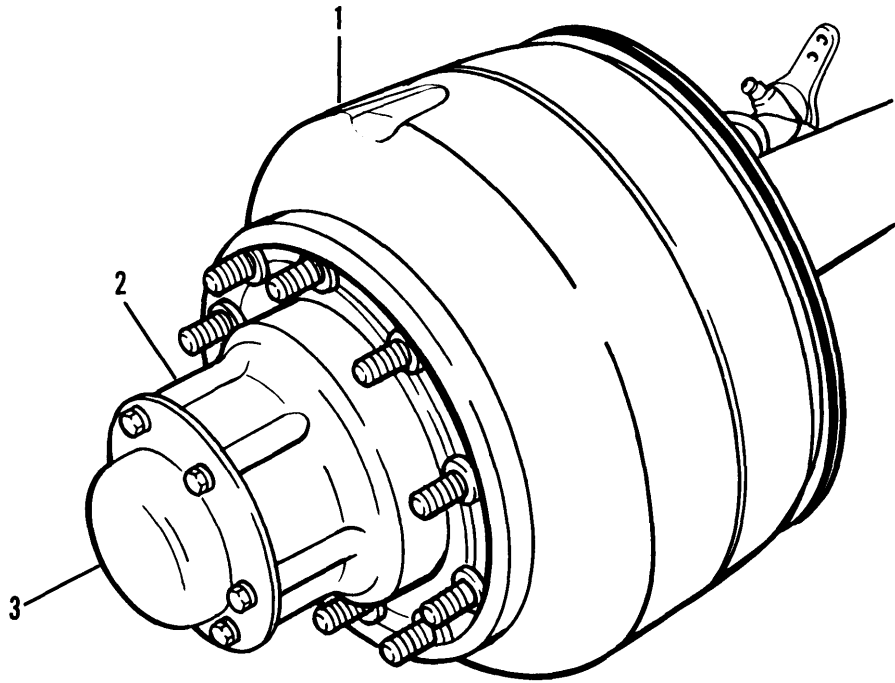

Figure 4-41. Hub and Brake Drum
b. Brake Drums. The brake drum (1, fig. 4-41) is attached to the hub (2) with ten nuts and studs. A hub cap (3) and gasket, fastened by six screws and washers of the center of the hub, excludes moisture and dirt.